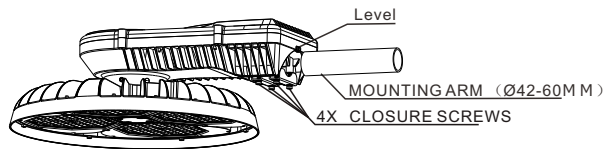

Figure 9
- Put the lamp into the round tube light arm as shown in Figure 9, refer to the level to install the lamp level, and then lock the four fixing screws;